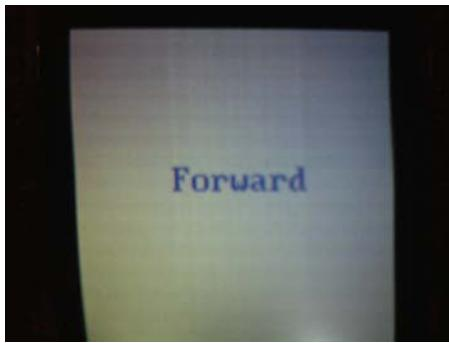

Figure 4-16. Format of the color LCD
The software will be the same as in chapter 3. The only change we will need is to display the direction the robot is moving at the center of the color LCD. Figure 4-16 illustrates the format of the display.
2. Put the H-bridge and the hex inverter on the solderless breadboard, as shown in Figure 4-16.